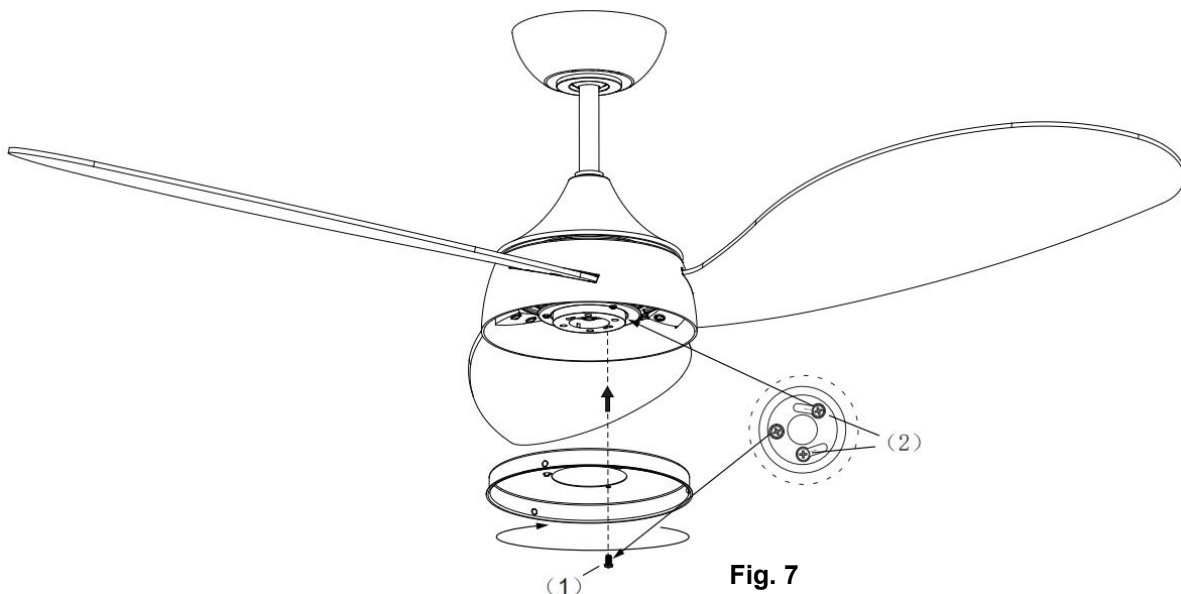

Fig. 7
INSTALLATION OF LIGHT KIT (Fig. 7)
1. Loosen the screw (1) from the fan bracket. (Fig. 7)
2. Align the two slot screws with the keyhole slots (2) of the light kit plate. (Fig. 7)
3. Turn the light kit plate counterclockwise until the slot screws are firmly at the end of the slots (2).
4. Secure the screw (1) to the lamp shade bracket. Tighten all three screws. Do not over-tighten.